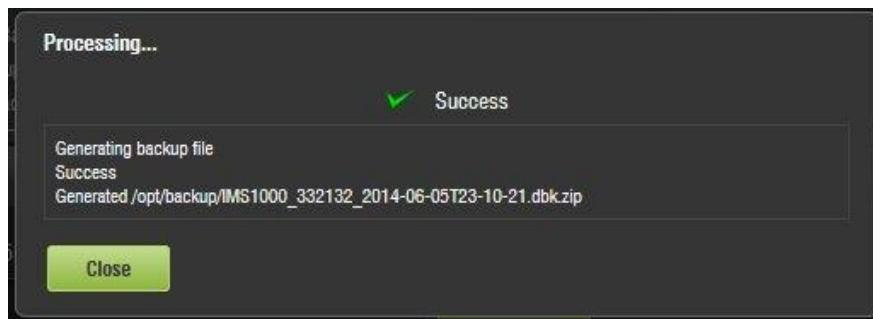

Figure 198: Backup Generation Window
- The Backup Generation window will appear (Figure 198). This will indicate the backup process was a success.